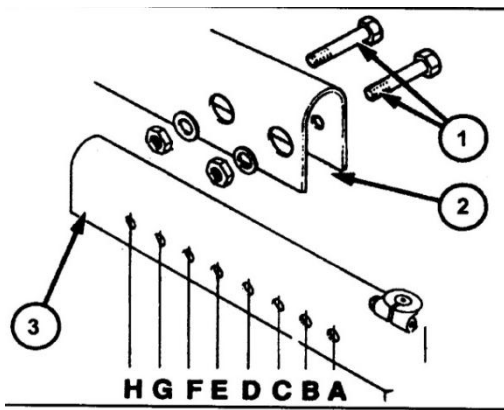

Fig. 5.7.1. Front wheel track adjustment – possible positions of axle arm.
- unscrew the nuts and remove the bolts 1 (Fig. 5.7.1) securing the left and right hand axle arms to the axle beam,
- reset the left and right hand axle arms passing the securing bolts through the axle beam and the axle arms as indicated in Fig. 5.7.1 and in the track setting table,